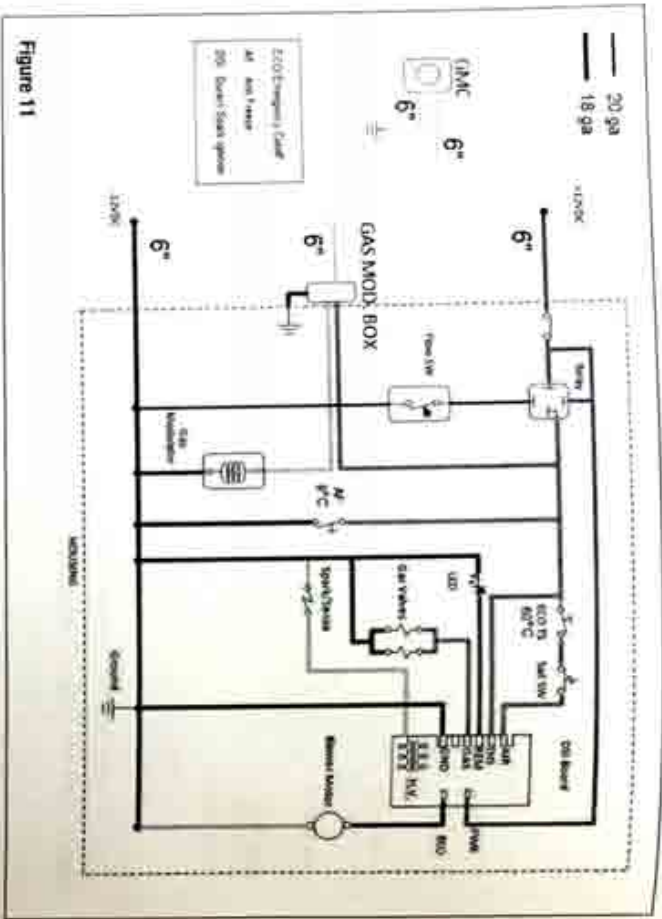

Figure 11
3. **Figure 11:** A Circuit Ladder Diagram to illustrate the Control logic and functionality of each electrical component